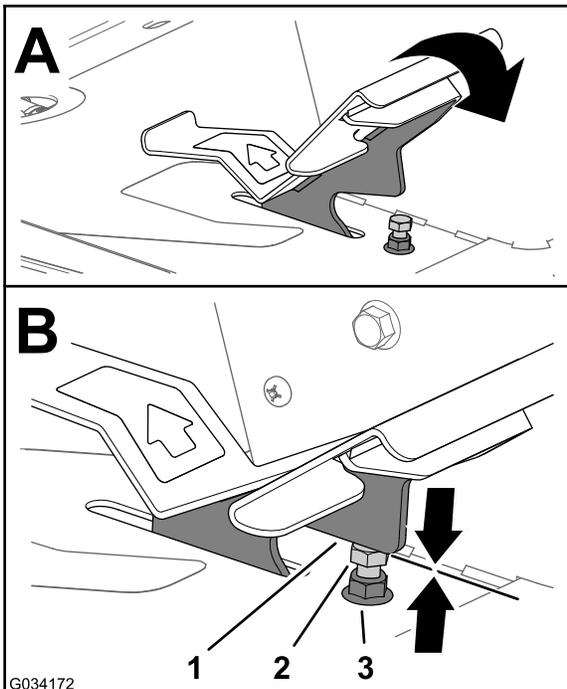
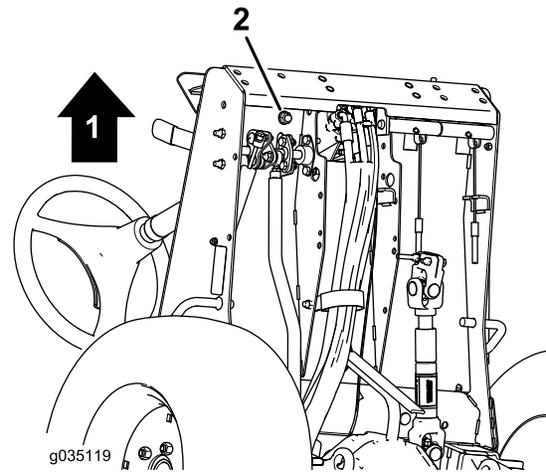

Figure 78
Figure 79
1. Move the traction pedal fully forward (Figure 78)
- A. Hold the traction-pedal stop (Figure 78) with a wrench.
- B. Loosen the jam nut at the bottom of the footrest plate (Figure 79).
- C. Move the traction pedal to the full forward position (Figure 78).
- D. While holding the traction-pedal stop, adjust the jam nut that is above the footrest plate (Figure 78) until the traction pedal makes contact with the stop.
- F. While holding the traction-pedal stop, torque the jam nut at the bottom of the footrest plate (Figure 78 and Figure 79) to 37 to 45 N·m (27 to 33 ft·lb).